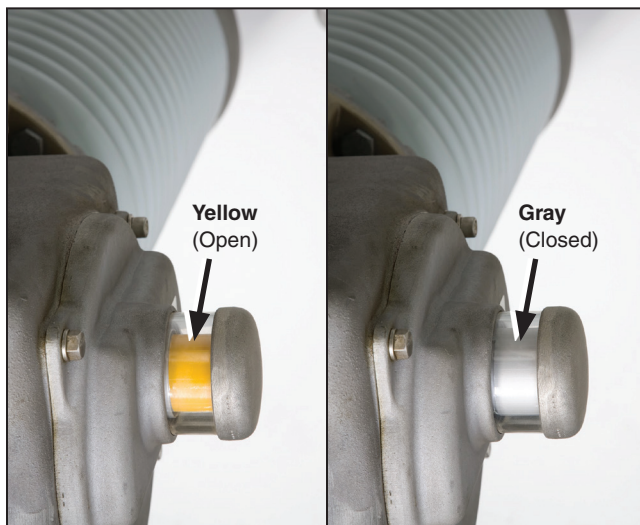

Figure 2. Interrupter target.
Note: Interrupter Target. Circuit-switchers are usually shipped with the interrupters in the **Open** position. Therefore, the interrupter target, located on the side of each brain housing will appear yellow. See Figure 2 on page 7. During the step-by-step instructions in this instruction sheet, the disconnect blades will be moved to the fully **Open** position. This will close the interrupter and charge and latch the stored-energy source within the brain, and the target will appear gray (normal).
- (b) As opening continues, the stored-energy source charges and latches, and a final peaking of effort again is required as the drive-shaft crank goes into toggle against the open stop. The blade will now be in the fully **Open** position and the interrupter will be in the **Closed** position, as indicated by the gray interrupter target on the side of the brain. See Figure 2 on page 7.